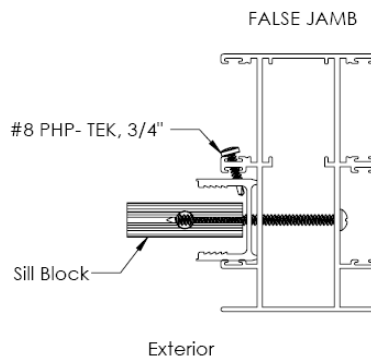

Figure 24:
- From the inside attach the bottom of the "O" panel to the False Jamb using a #8 x 3/4" PHP TEK screw (Figure 24).